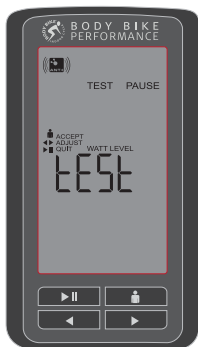

Figure 38
- 2: Enter the test by pressing  until you reach the test screen, see figure 38.